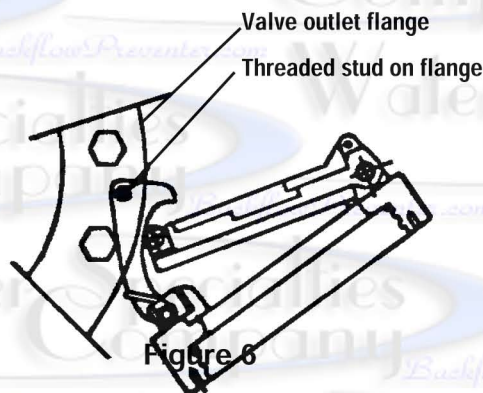

Figure 2
3. To clean check assemblies, locate the check arm opening stud on the outlet flange of the valve assembly, (6" and 8" only). Slide the arm over the stud with the check threads facing downward (Fig. 2). Tighten a 1/4" nut on stud to secure. Slowly pull the assembly outward to open check allowing exposure of the seat and clapper contact area for cleaning.